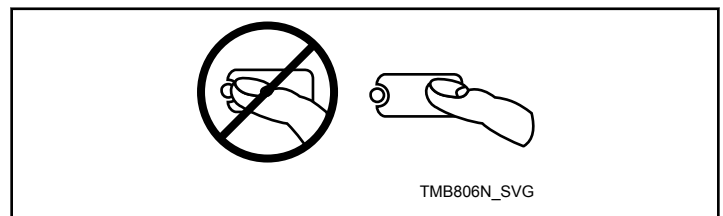

Figure 38
**NOTE: Do not press directly on lights or the center of pad. For proper selection, press on pad slightly to the right of center. Refer to Figure 38 .**